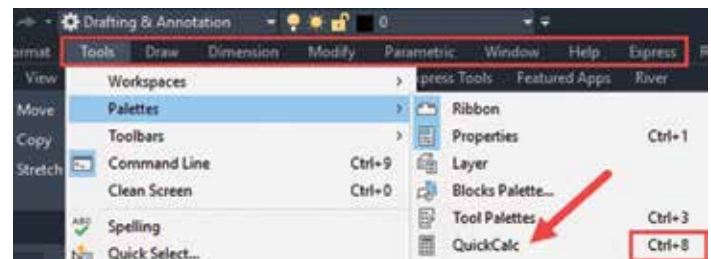

Figure 6
2. On the menu bar, Tools, Palettes, choose QuickCalc (if you do not show the menu set the menubar system variable to 1 to display the menu). See Figure 6.